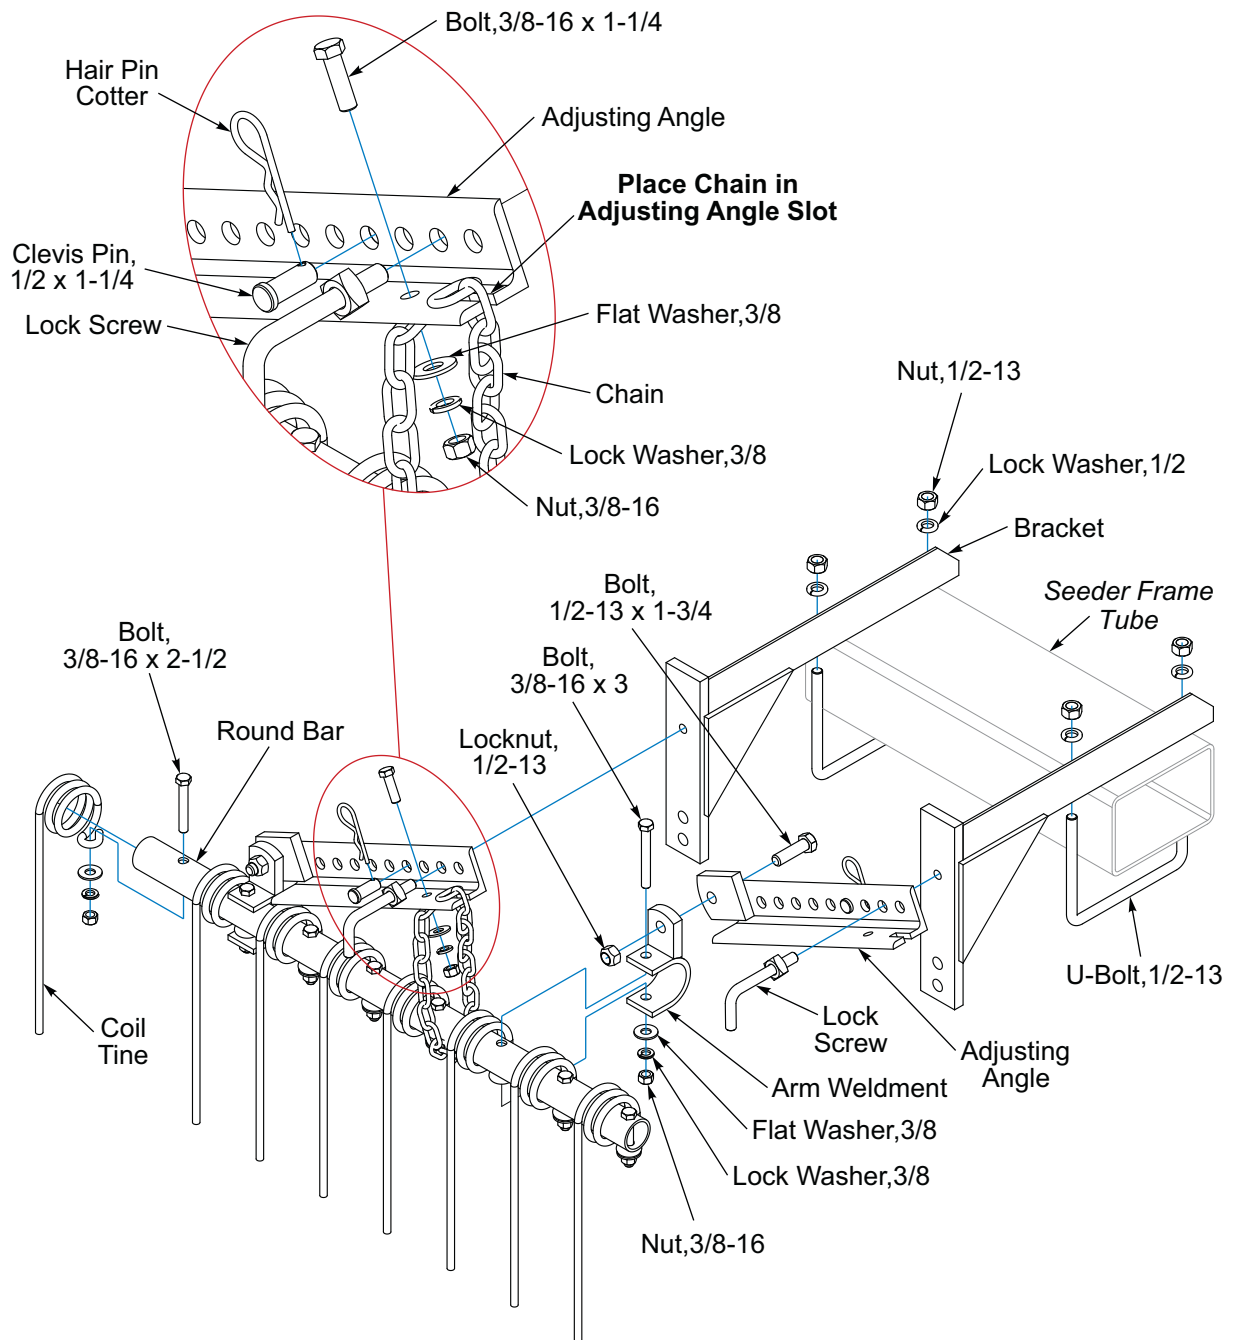

Figure 2-49: Coil Tine Setup
1. Slide the Coil Tines onto the Round Bar so that the straight leg is frontward. **See Figure 2-49.**